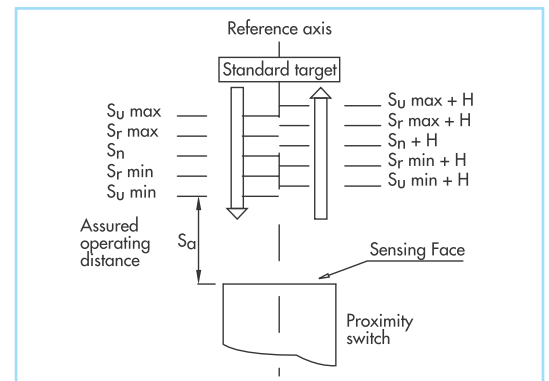

Fig. 1
The rated operating distance is a nominal value used to designate the operating distance. Manufacturing tolerances and external factors are not taken into account. Fig. 1 shows the relation between the operating distance (S_n, S_r, S_a) and the hysteresis (H).